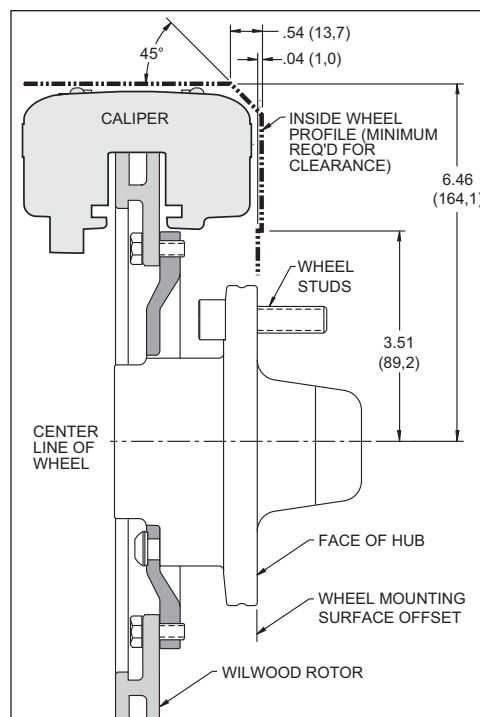

Figure 3. Wheel Clearance Diagram
- Review the wheel clearance diagram (figure 3, page 4) to verify that there is adequate clearance with the wheels you will be using with the installation.
- Verify your wheel clearance using Figure 3.